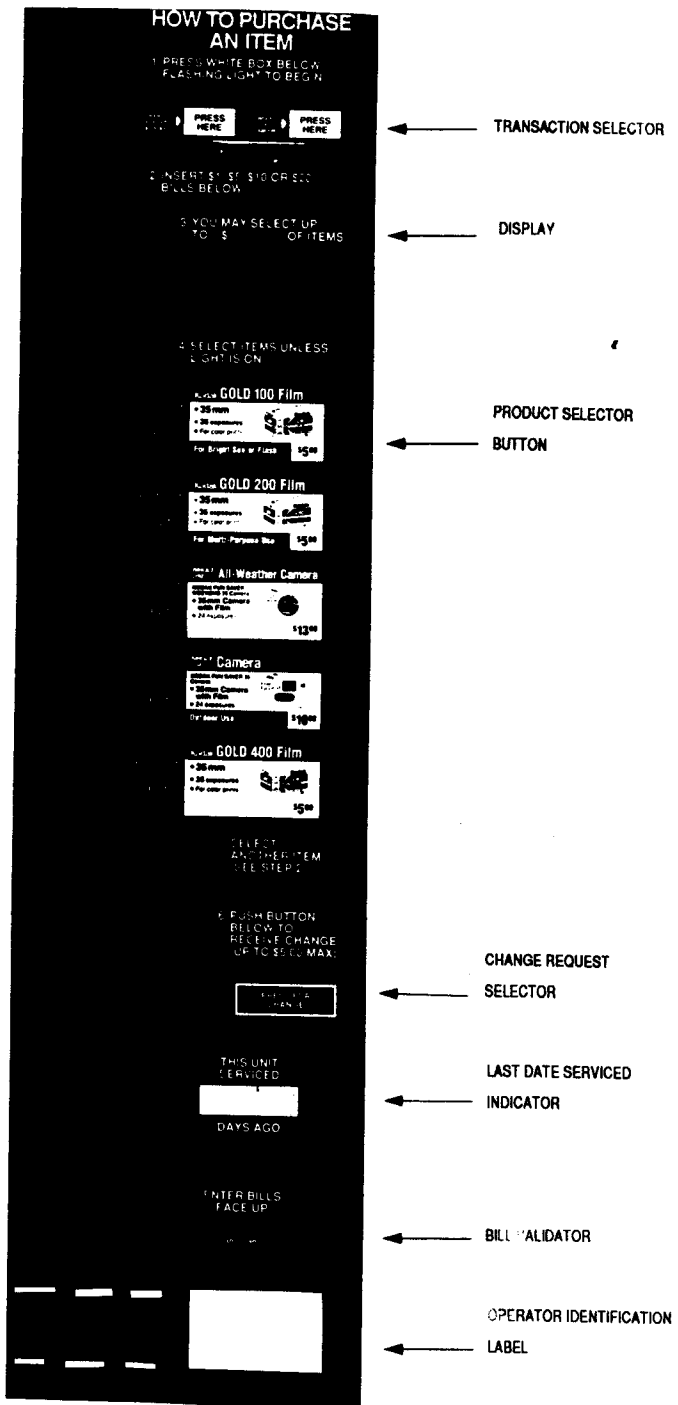

Figure 22
11. Affix Operator Identification label to lower section of Consumer Interface Panel (see fig. 22).